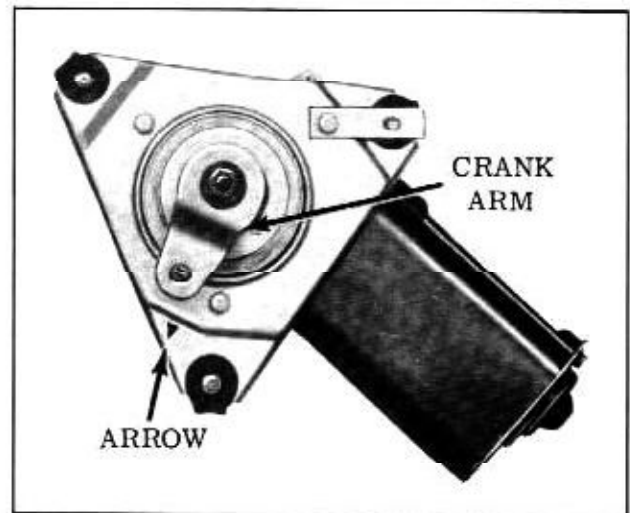

Fig. 13-116 Motor Installation
1. With wiper motor crank arm in the park position, as shown in Fig. 13-116, place the motor assembly on the cowl panel and install the 3 attaching screws. Be sure the attaching screws are fully tightened so that the sleeves surrounding the screws bottom to prevent "floating of the motor".